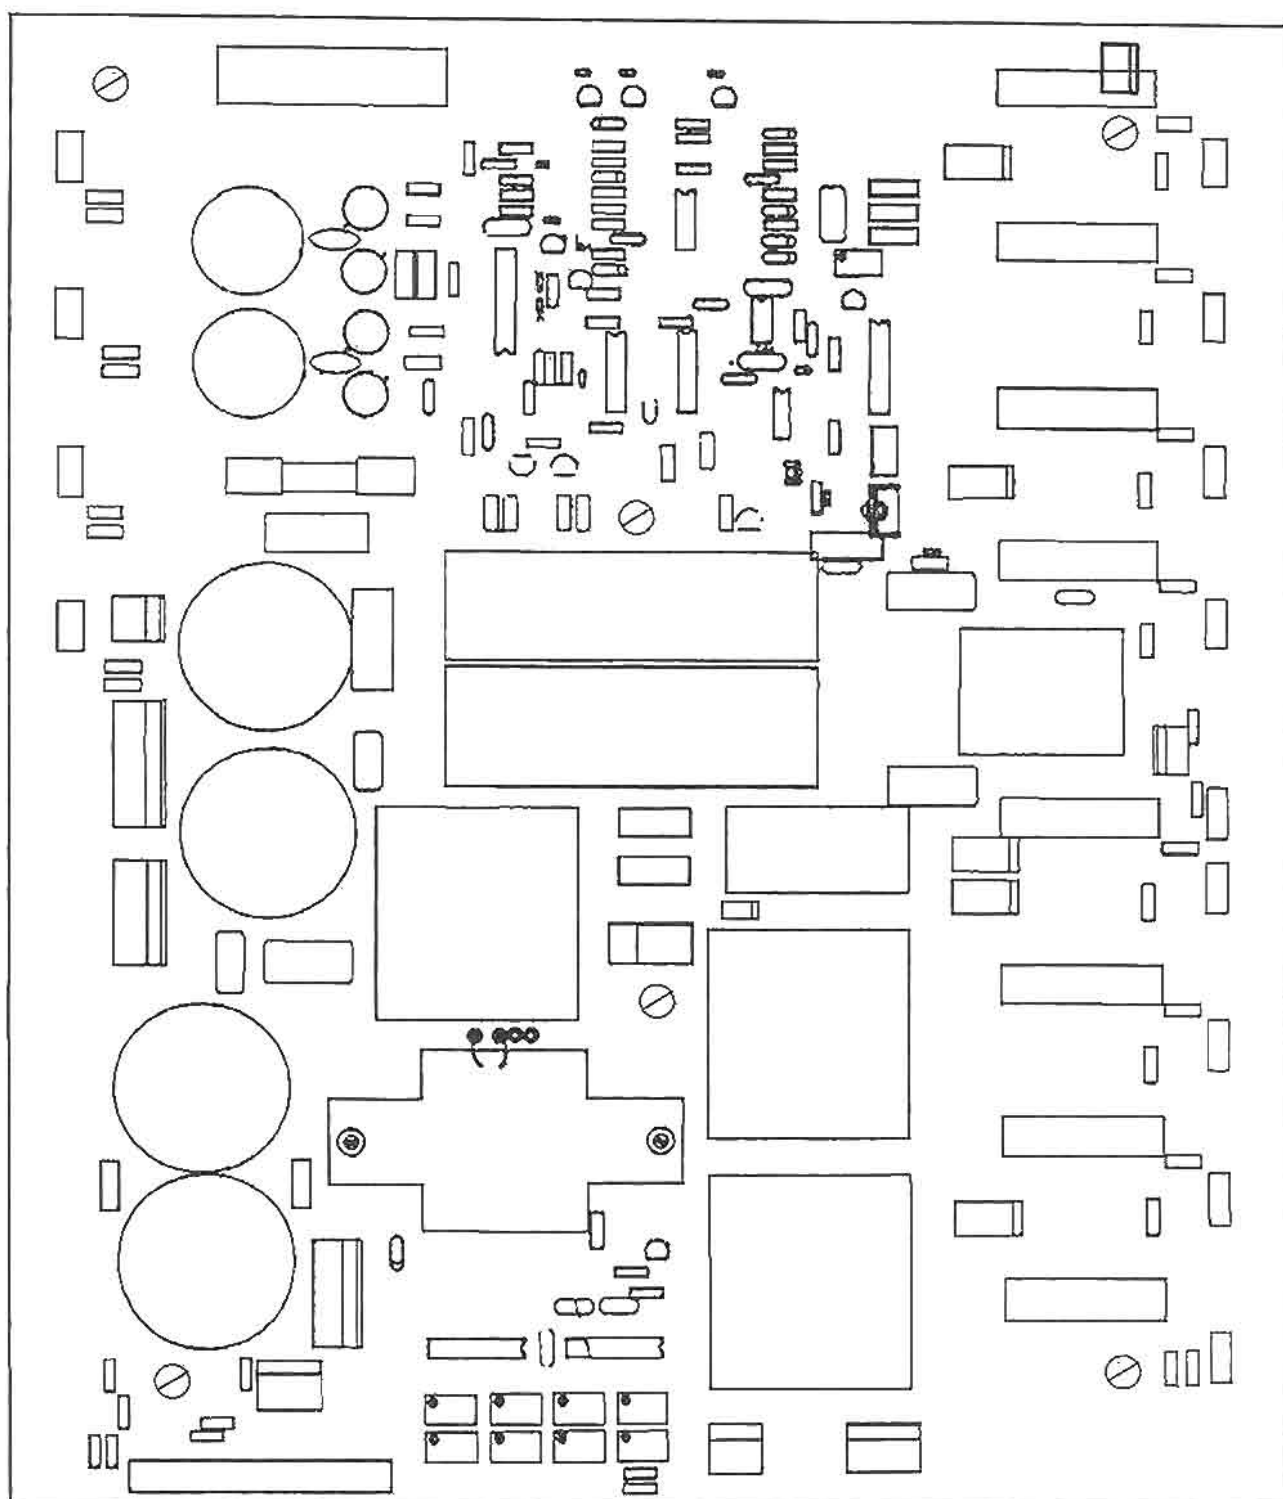
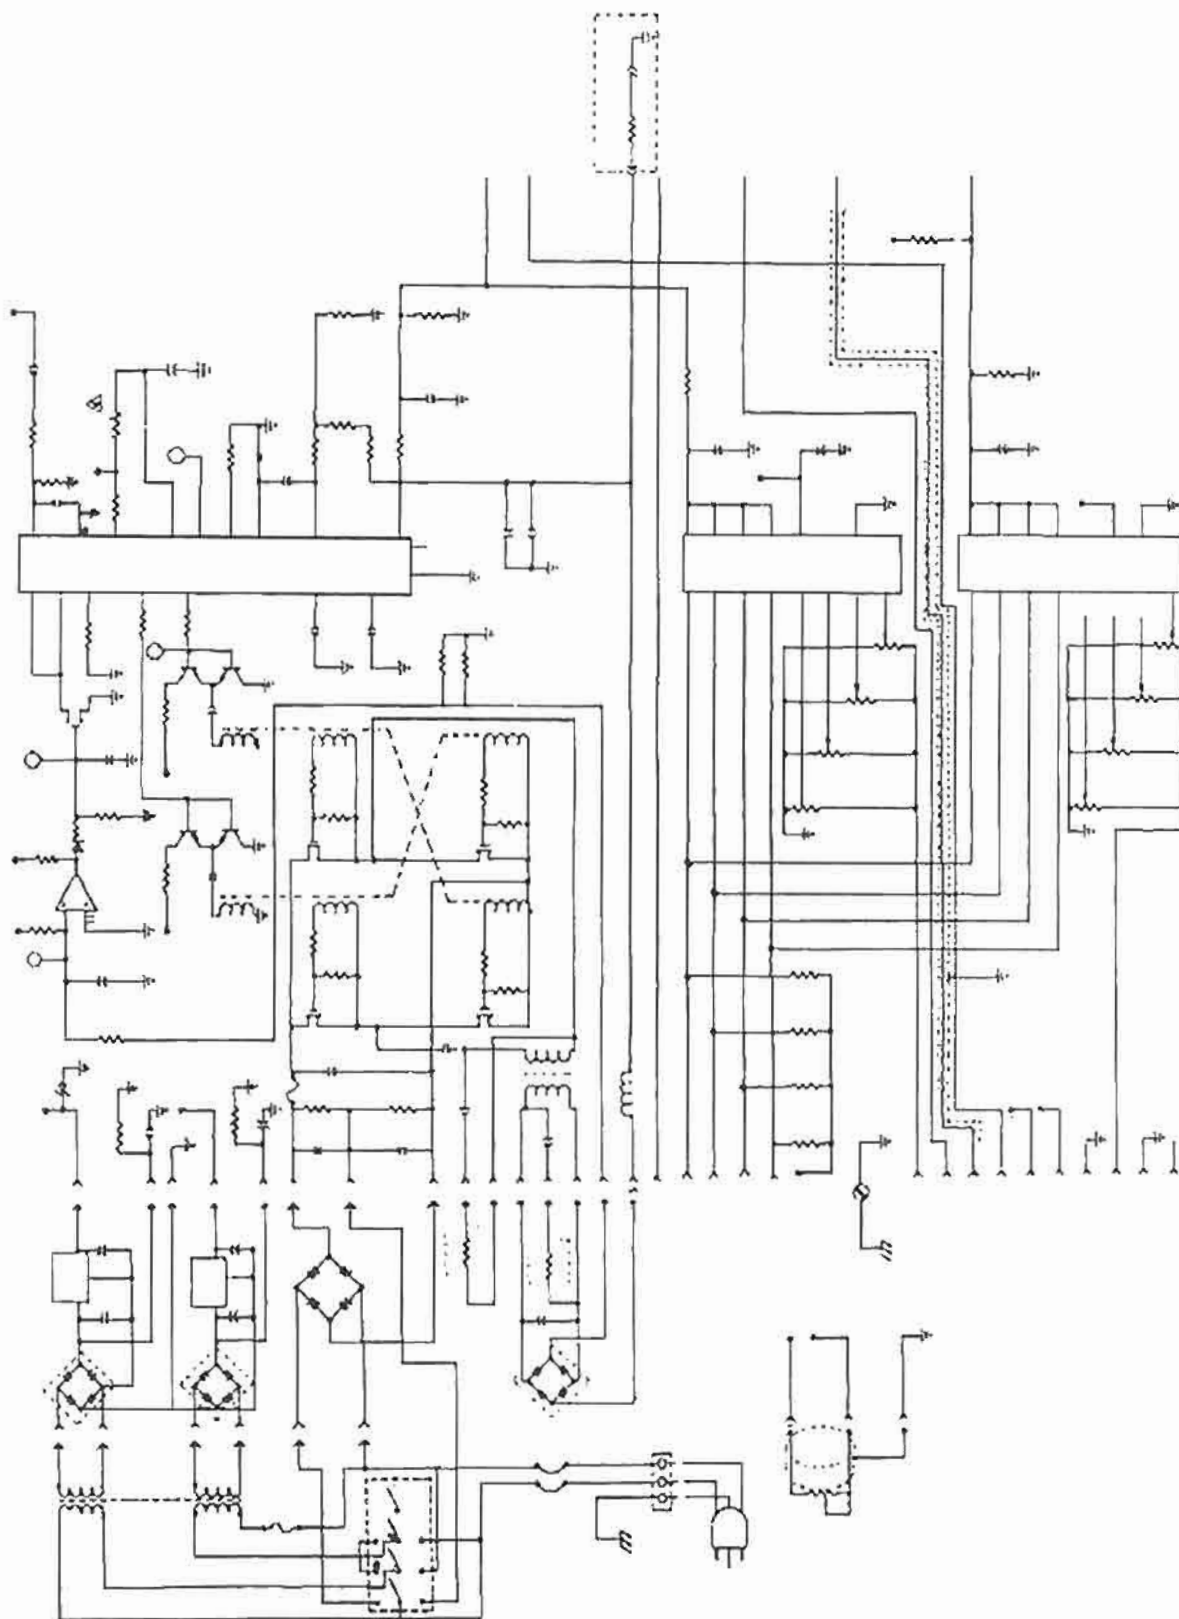

Figure 4-5. Power supply/RF PCB.
Figure 4-6. Power supply/RF PCB schematic.
(1) This circuitry amplifies the CPU on/off signals to the level required by the front panel wattage settings. Current limiting and peak voltage limiting circuits prevent damage under extreme load conditions. Varying the supply voltage controls power. Both DC supply and RF current limit levels are calibrated for each mode (CUT, COAG, BLEND 2, and BIPOLAR). The output tuning and transformer windings ratio is different for CUT and COAG waveforms and is selected by a relay. Eight power FETs act as RF switching elements. A current sampling resistor at the source provides input to a current limiting circuit. The gate drive is at a +12 VDC. The drains have diodes in series to allow the RF output transformer primary voltage to swing negative in COAG mode. The CUT mode waveform drive is a 50 percent cycle with a 1  $\mu$ s on time period. The COAG mode drive waveform is generated by turning on the FETs for 2  $\mu$ s every 32  $\mu$ s.
(2) RF control uses a set-reset flip-flop toggling at 500 kHz in CUT mode. The flip-flop is set by the turn on (TON) signal which turns on the output FETs. The flip-flop is cleared by the turn off (TOFF) signal or by a current limit pulse from the LM306 comparator. The current limit reference to turn the IC on is supplied by the CPU and varies as the square root of power with an offset at low powers. When peak voltage limiting occurs, the reference voltage to the LM306 comparator is reduced to lower the output pulse width. At high load impedances, a one-shot is triggered by transformer primary voltages below -100 VDC. This one-shot turns on a FET to load the output and reduce high frequency risk currents.
(3) The FET output is relatively low impedance and its voltage compliance is limited by the choice of DC power supply voltage as the power control resembles a constant voltage source. Below a 300-ohm load, the current limit circuitry enforces a constant current characteristic. A peak detector and comparator provide RF indicator control. The bipolar control adds an Op Amp to the power supply feedback path. This amplifies the difference between the RF output peak voltage and the power supply set point voltage. The difference is added with the feedback supply voltage by injecting current into the feedback divider to reduce the supply under high impedance load conditions. Current injection is enabled only in the bipolar mode.
(4) All eight output FETs must be the same type. Check current matching in COAG mode by clipping a current transformer around the 0.2-ohm resistors.
(5) The PSRF PCB is illustrated in figure 4-5 and the schematic diagram for the PCB is contained in figures 4-6 and 4-7.